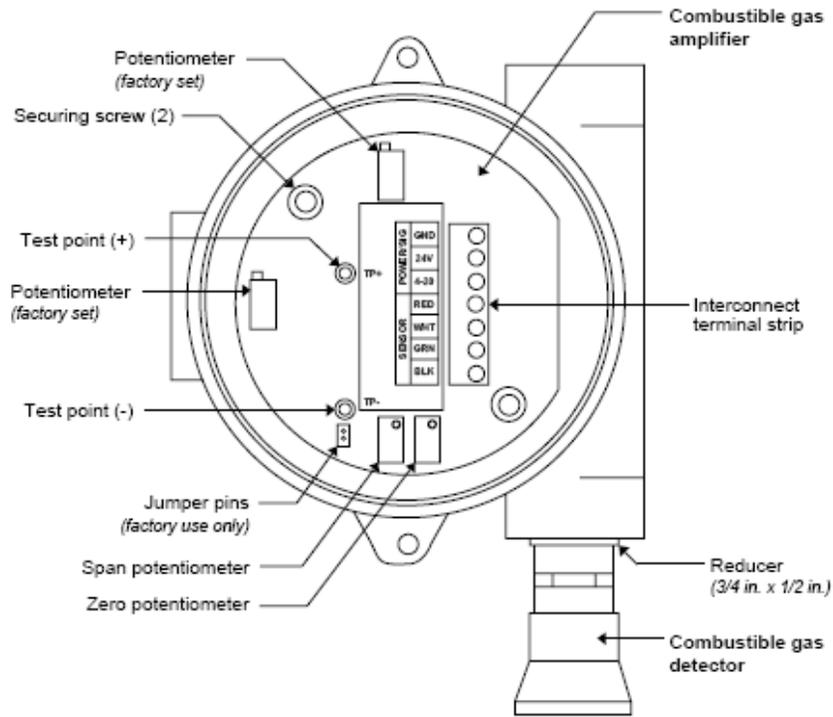

Figure 1: Combustible Gas Transmitter Component Location
The amplifier converts the electrical output from the detector to a 4 to 20 mA signal that is proportional to the detection range and transmits the signal to a gas monitoring controller. The amplifier includes the interconnect terminal strip, span potentiometer, zero potentiometer, and test points (see Figure 1).
The span potentiometer is near the bottom of the amplifier (see Figure 1). Use the span potentiometer to adjust the transmitter's response output during the calibration procedure.
The zero potentiometer is to the right of the span potentiometer (see Figure 1). Use the zero potentiometer to adjust the transmitter's target gas-free output during the start-up and calibration procedures.
The test points (labeled **TP+** and **TP-**) are to the left of the interconnect terminal strip (see Figure 1). The test points produce a 100 to 500 mV output that is proportional to the transmitter's 4 to 20 mA output. Use the test points and a voltmeter to measure the transmitter's output during the start-up and calibration procedures.
4. Verify that the detector leads are wired to the amplifier's interconnect terminal strip. If necessary, connect the detector leads to the interconnect terminal strip as shown in Figure 1.